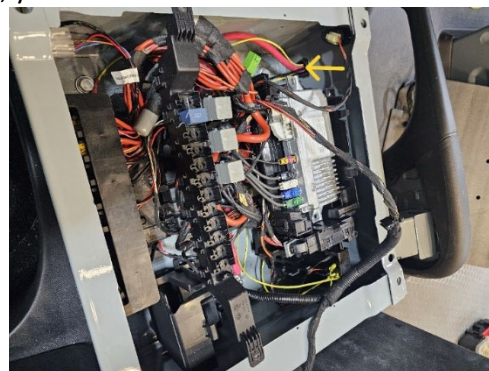

Figure 2
- Leave the side of the harness with the two (2) diodes on the passenger side.
- Insert the single leg of the harness into the driver seat through the 1-inch hole on the interior side of the seat base. See Figure 2, yellow arrow.